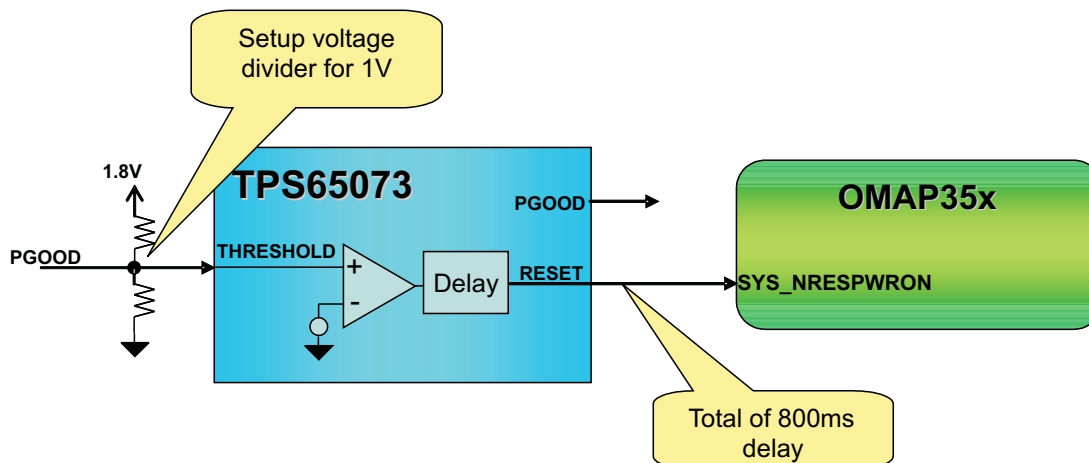

Figure 6. Using THRESHOLD to Further Extend RESET Signal to OMAP35x
- Use the THRESHOLD and RESET signals of the TPS65073 to double the delay time of the reset to OMAP35x. The THRESHOLD input is compared to a 1-V reference. Once this threshold is met, the RESET output transitions high after a 400-ms delay. Thus, with the delay of 400 ms for the PGOOD output, total delay of 800 ms in SYS_nRESPWRON can be created to further extend the time needed to stabilize (see Figure 6).